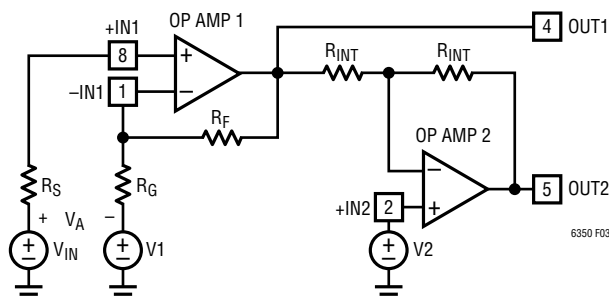

Figure 3. General Configuration
Because the input op amp presents its output and both its inputs to LT6350 pins, alternative configurations are possible. Consider the general configuration shown in Figure 3.
The simple connection described in the Basic Connections section can be seen as a special case of the general circuit in Figure 3 where  $R_F$  is a short circuit,  $R_G$  is an open circuit, and the voltage at  $V_{IN}$  is centered around the voltage  $V_2$ . If differential gain greater than two is needed, the values of  $R_F$  and  $R_G$  can be adjusted in accordance with Equation (2). Additional information about feedback networks is given in the next section and in the Input Amplifier (Op Amp 1) Feedback Components section.
Although the previous examples have assumed the input signal is applied at +IN1, it is also possible to use the input op amp in an inverting configuration by fixing the voltage  $V_{IN}$  and applying the input signal at  $V_1$  of Figure 3. Using the input op amp in the inverting configuration fixes its input common mode voltage at the voltage  $V_{IN}$ , which allows the input signal at  $V_1$  to traverse a swing beyond the LT6350 supply rails. To avoid unwanted differential offsets in this configuration  $V_{IN}$  should be chosen such that:
When feedback resistors are used to set gain in op amp 1, care should be taken to ensure that the pole formed by the feedback resistors and the total capacitance at the inverting input, -IN1, does not degrade stability. For instance, to set the LT6350 in a differential gain of +4,  $R_F$  and  $R_G$  of Figure 3 could be set to 1k $\Omega$ . If the total capacitance at -IN1 (LT6350 plus PC board) were 3pF, a new pole would be formed in the loop response at 106MHz, which could lead to ringing in the step response. A capacitor connected across the feedback resistor and having the same value